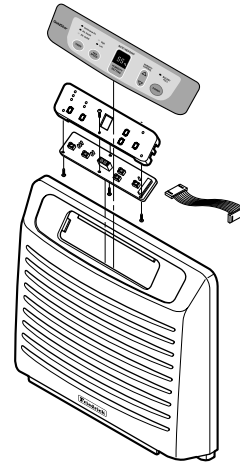

Figure 13
2. Remove 6 screws that fasten the PWB(PCB) ASSEMBLY, DISPLAY to the display cover. (See Figure 13)